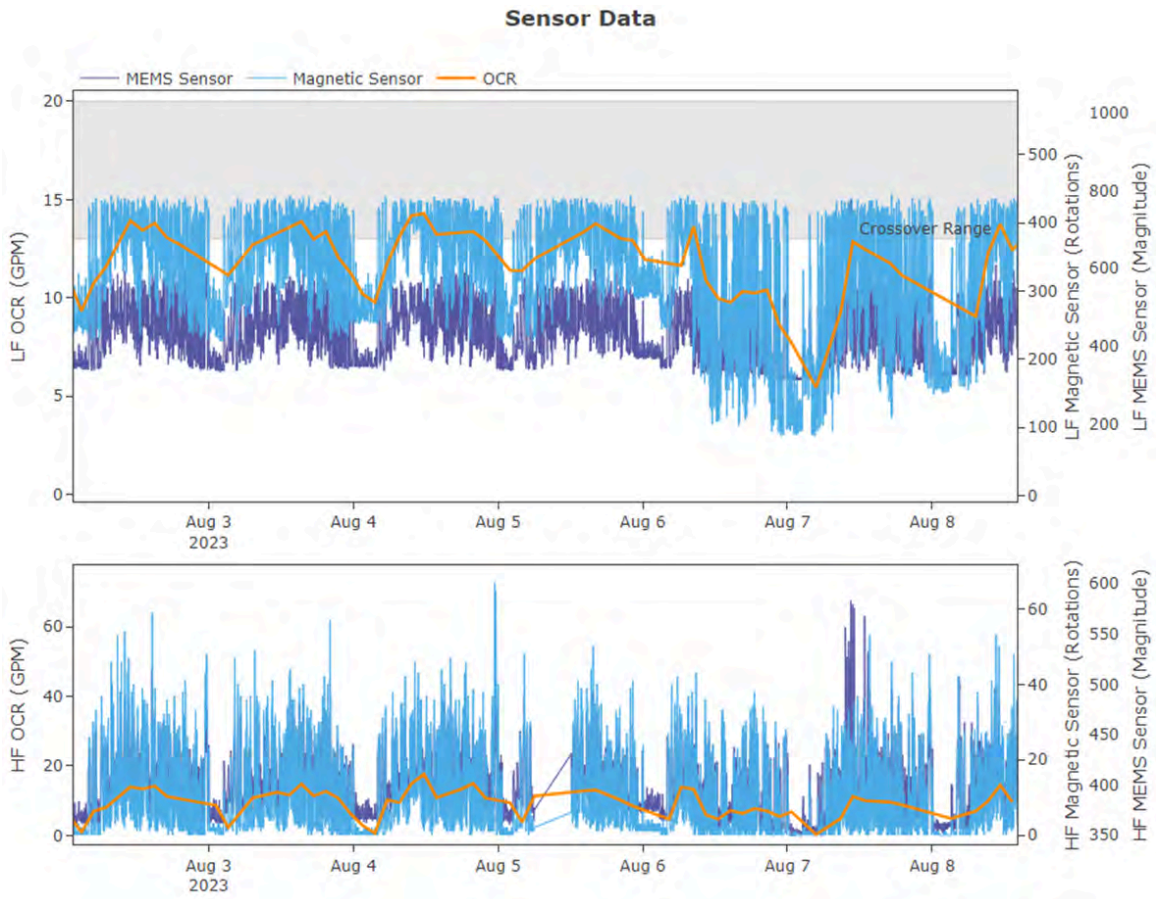

Figure 7 - 'No Problem Found' meter
- This is a compound meter (Figure 7), with the low flow meter represented in the upper graph and high flow meter on the lower graph. The sensor data (flow - orange, magnetic rotations - blue, vibration - purple) is in harmony, and the flow is crossing over from the low flow meter to